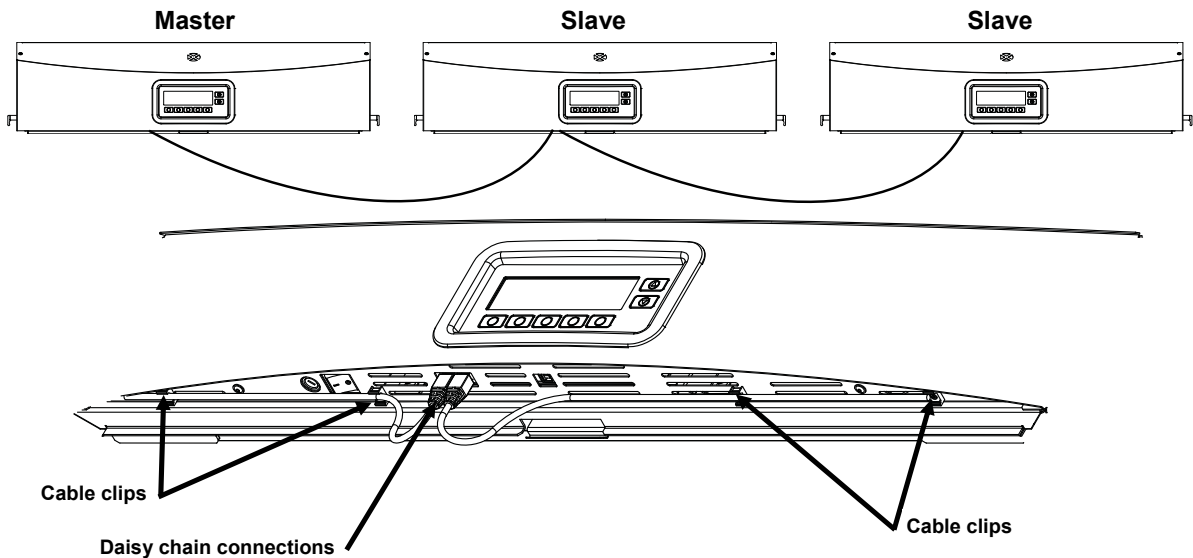

Figure 11. Luminaire Daisy Chain Connection
9. Connect the luminaire daisy chain cables between the luminaires at the front. Use the cable clips to hold the cables in place. Refer to figure 11.